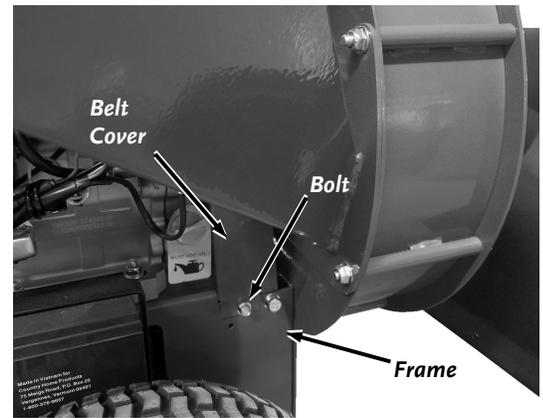

Figure 36
1. Remove the Bolts that secure the Belt Cover to the Frame using a 3/8" Wrench (**Figure 36**).
15. Re install the Belt Cover to the Frame (**Figure 36**).